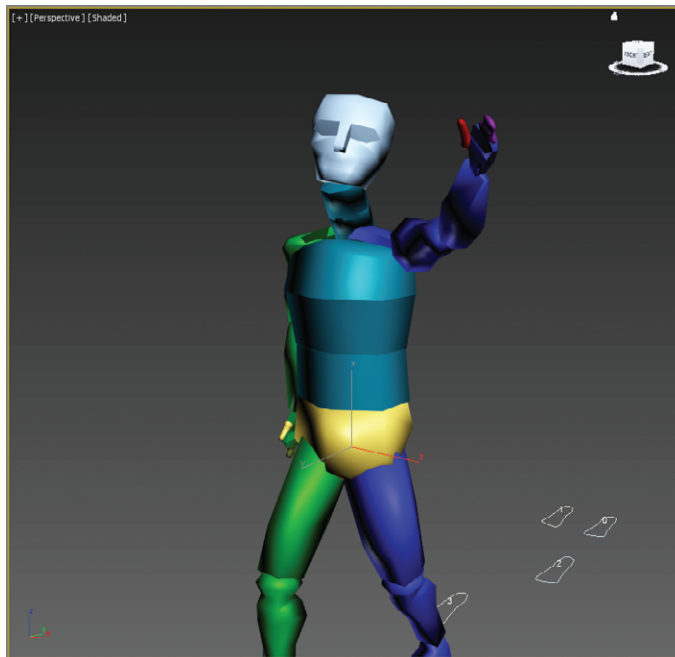

FIGURE 13.6 Rotate the biped's arm, hand, and finger to assume a pointing posture.
2. Continue adjusting the biped's left arm, hand, and finger until they appear to be pointing at something, as shown in Figure 13.6.